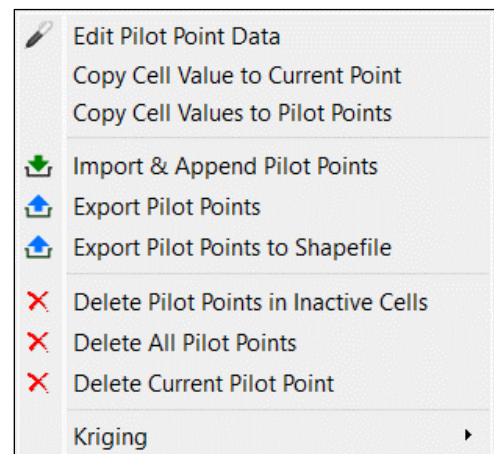

Figure 28. The Pilot Point menu
- Right click anywhere on the Map Viewer to display the Pilot Point menu (Figure 28).
2. Right click anywhere on the Map Viewer to display the Pilot Point menu (Figure 28).
- Right click on a pilot point to display the Pilot Point menu (Figure 28).
- Right click on the pilot point to display the Pilot Point menu (Figure 28).
You can open the Kriging Parameters dialog box by right-clicking anywhere on the Map Viewer, and then selecting *Kriging > Edit Parameters* from the Pilot Point menu (Figure 28).
Once pilot points and all required parameters are entered, you can start a Kriging Process by right clicking anywhere on the Map Viewer, and then selecting *Kriging > Apply* from the Pilot Point menu (Figure 28).